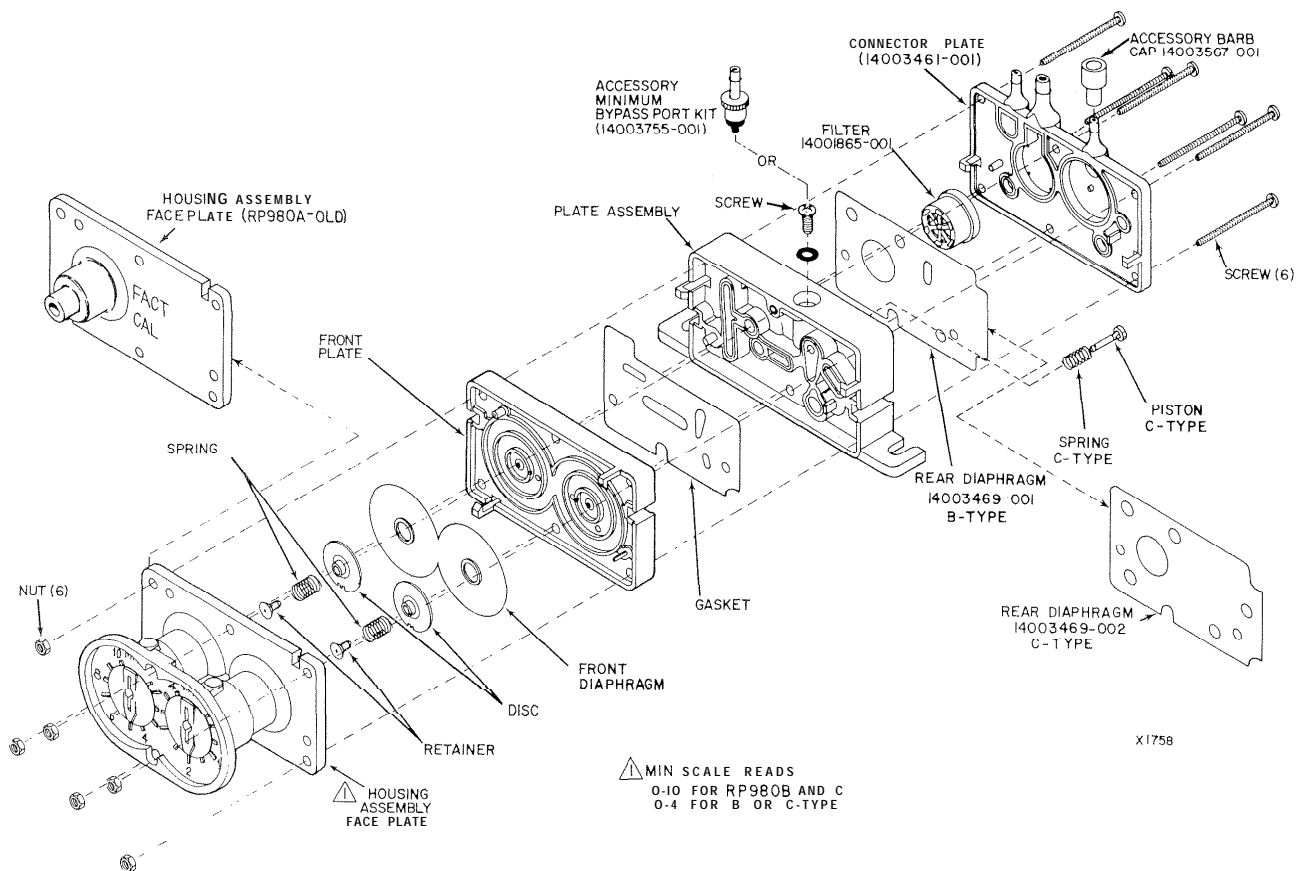

Fig. 16. Controller Exploded View.
NOTE: If the pneumatic air supply has been contaminated with water or oil and symptoms similar to Figures 12 and 13 (low main air pressure) develop, replace the filter (Fig. 16).
**NOTE:** Only parts listed in Figure 16 with part numbers are replaceable. If parts other than those listed are required, replacing the sensor-controller as a matched set is recommended. Sensor or controller can be replaced individually but this requires field calibration. If desired order:
2. Remove the six screws holding the unit together (Fig. 16).